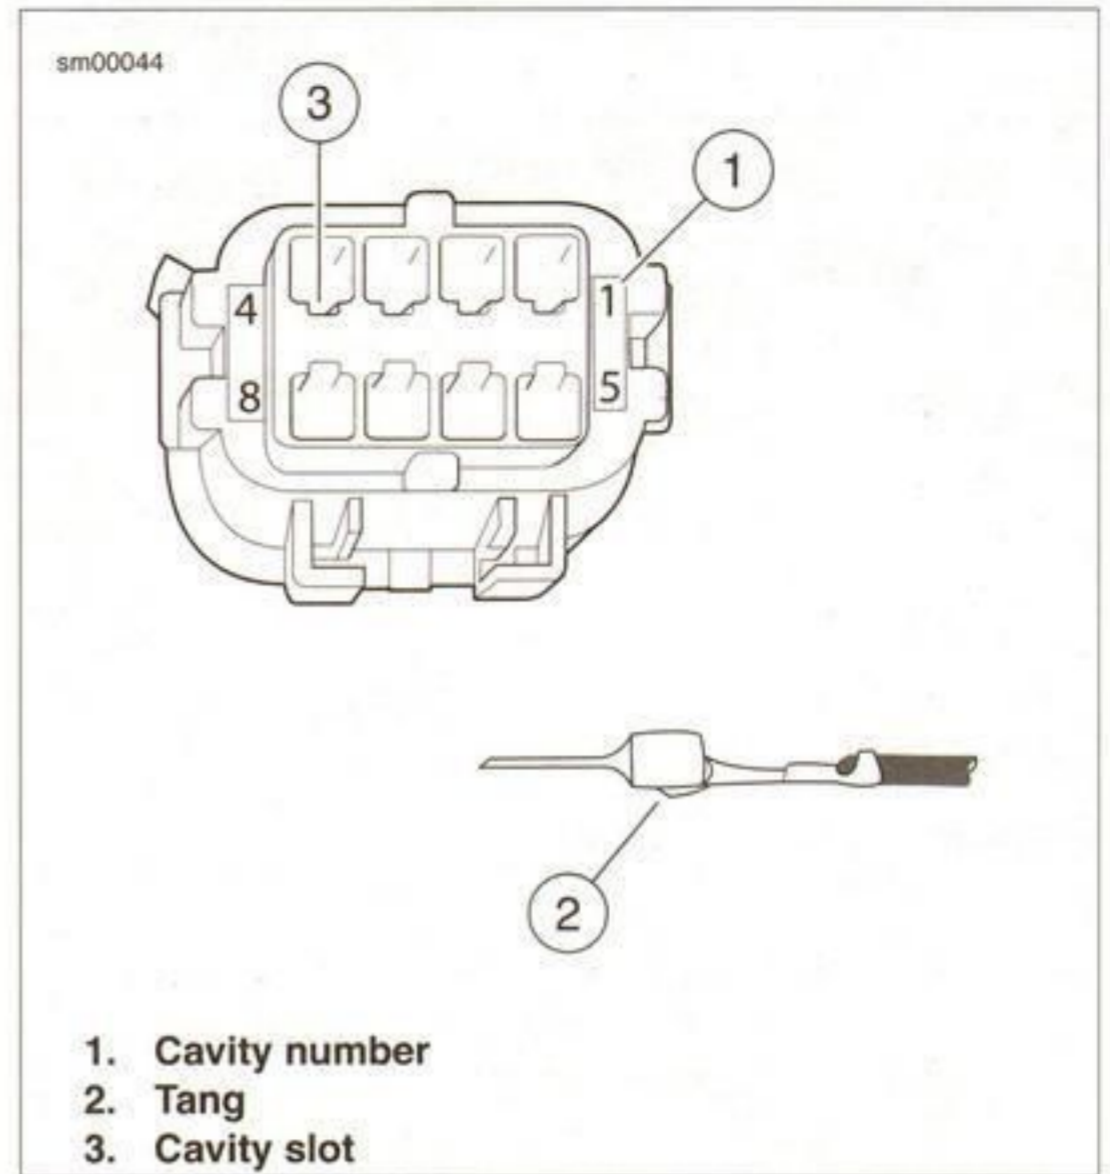

Figure A-28. Molex Connector: Pin Cavities and Wire Terminal
1. See Figure A-28. From the wiring diagram, match the wire color to its numbered terminal cavity.